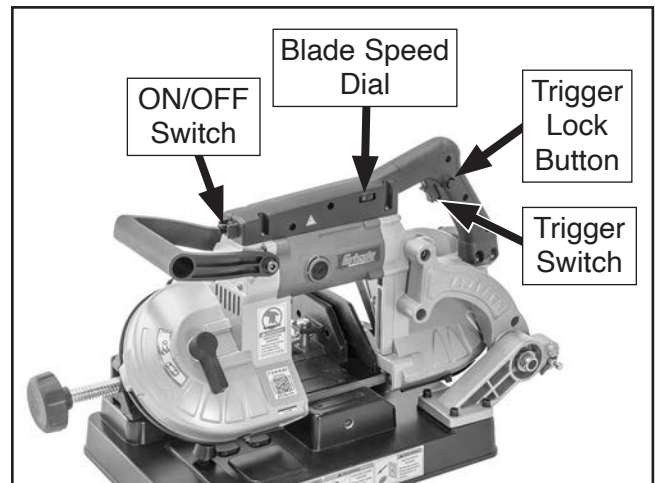

Figure 11. Location of power controls.
2. Adjust blade speed dial (see **Figure 11**) to "1."
3. Move ON/OFF switch (see **Figure 11**) down to OFF position.
5. Press trigger switch, then lock it in place by pressing trigger lock button (see **Figure 11**).